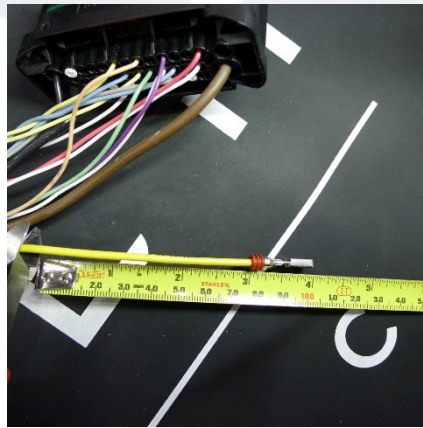

Figure 23
23. Cut the yellow power terminal wire 100 mm from the end (Figure 23), and then discard the end.